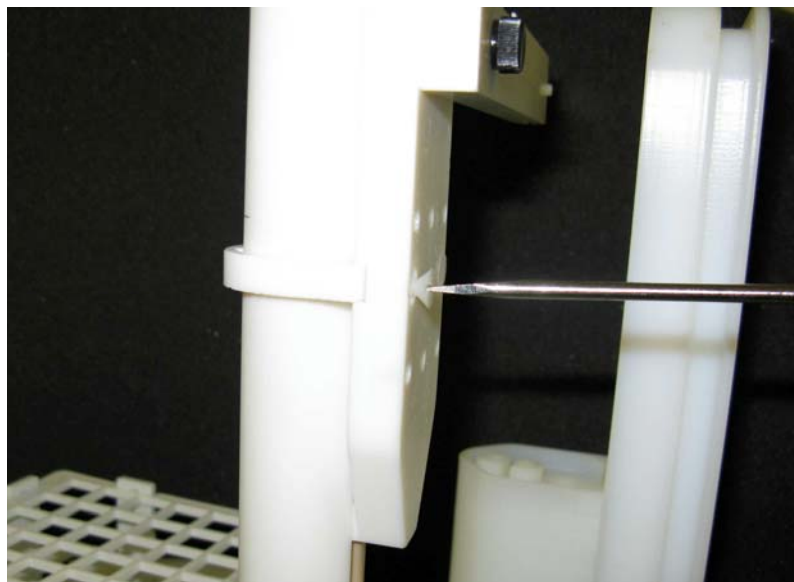

Figure 1.
6. Remove two plastic standard screws on the z-axis slider assembly where the swinging arm attaches to the slider. (Figure 1)